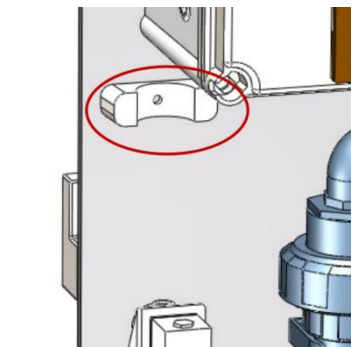

Figure. 9
9. The lower part of the stainless-steel fastener is fixed to the panel with screws in the direction shown in the Figure 9